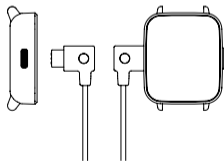

Fig.3-3
1. Plug the SpO₂ probe into the probe socket of the Wrist Pulse Oximeter, ensure that the sensor is plugged correctly and firmly (see Fig.3-3).